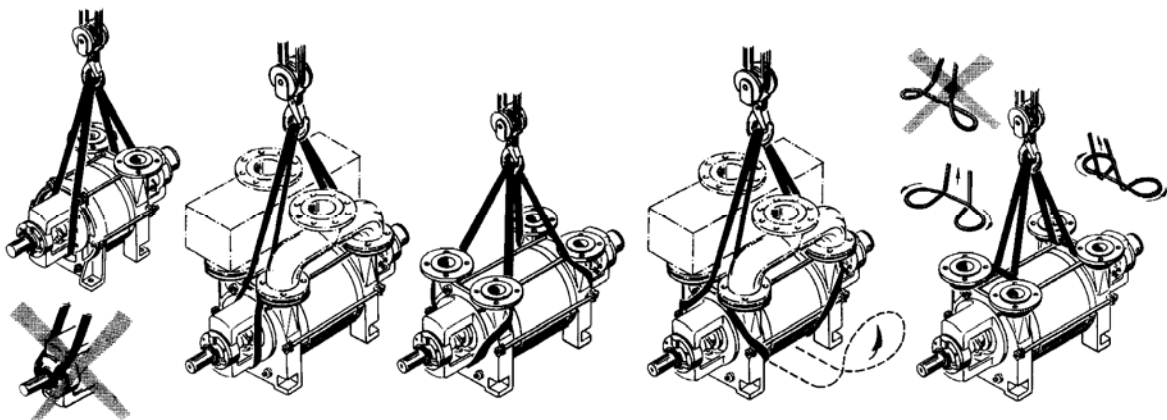

Figure 1.3b Hoisting individual machines
- tilting of the machine is excluded by correct positioning of slings (see Figures 1.3b),